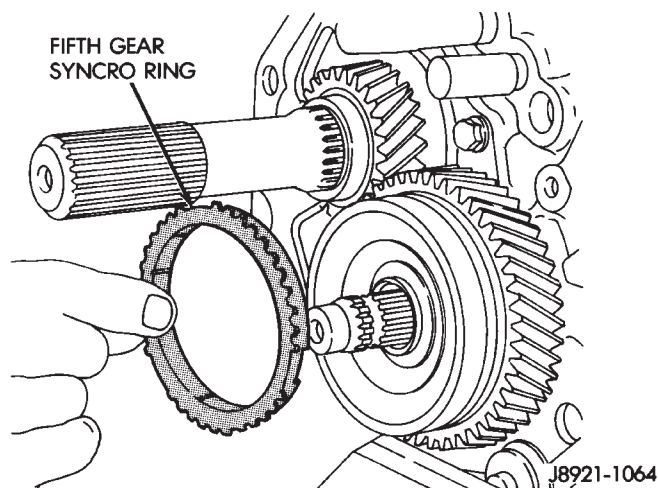

Fig. 57 Remove Fifth Gear Synchro Ring
(9) Remove fifth gear synchro ring (Fig. 57).